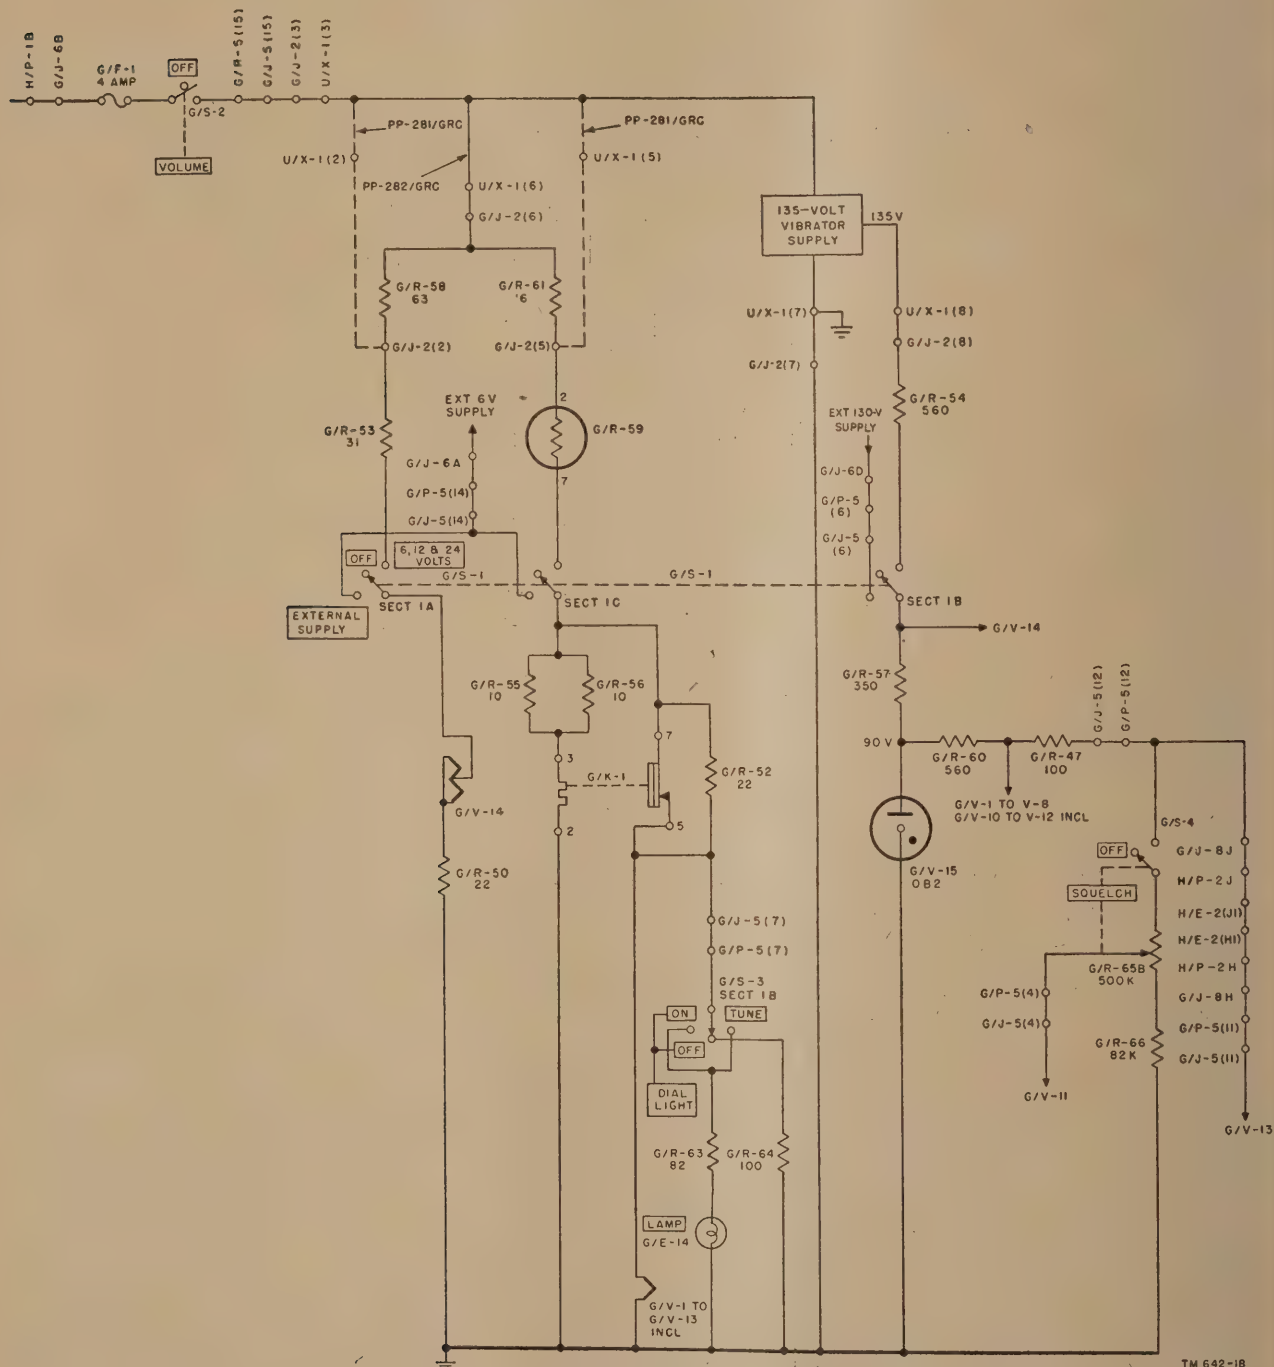

Figure 41. Auxiliary receiver power distribution circuits.
72. Auxiliary Receiver Power Distribution Circuits (fig. 41)